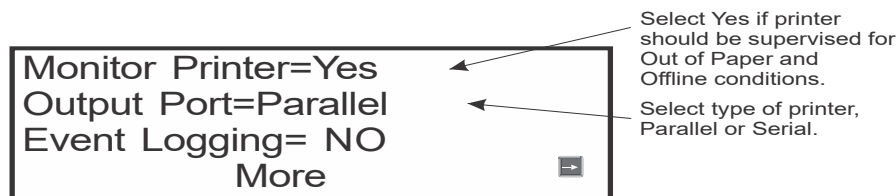

Figure 4.32 Selecting Printer and Output Port Options
5. Press ENTER to bypass the next two screens. A screen similar to the one shown in Figure 4.32 will display.